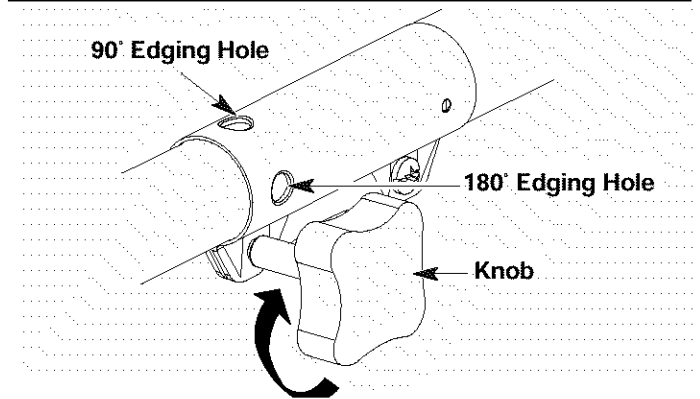

Fig. 8
3. Turn the knob clockwise to tighten (Fig. 8).
For edging when using the line head cutting attachment with EZ-Link™ models, lock the release button of the cutting attachment into the **90° edging hole** or the **180° edging hole** (Fig. 8).